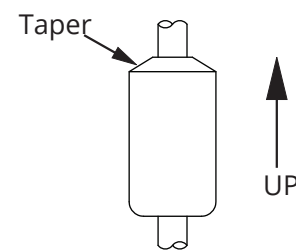

Figure 5.1
- The float(s) is/are oriented properly on the stem (See Figure 5.1 below). MPX-F floats are installed by customer.